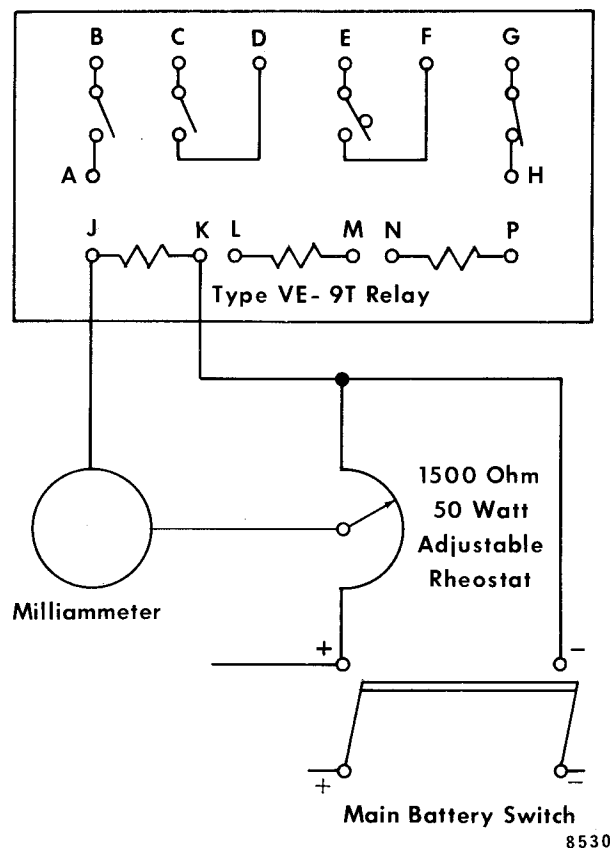

Fig. 7 - Pickup And Dropout Test Diagram
2. Connect test circuit lead from milliammeter to terminal J and the lead from the adjustable rheostat to terminal K. See Fig. 7.